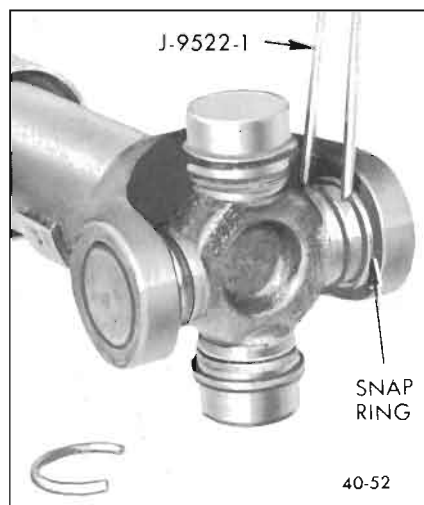

Figure 40-52—Removing Snap Rings From Propeller Shaft
1. Remove snap rings from the bearings. The snap rings are on the inside of the yoke and can be removed with the aid of Tool J-9522-1. See Figure 40-52.